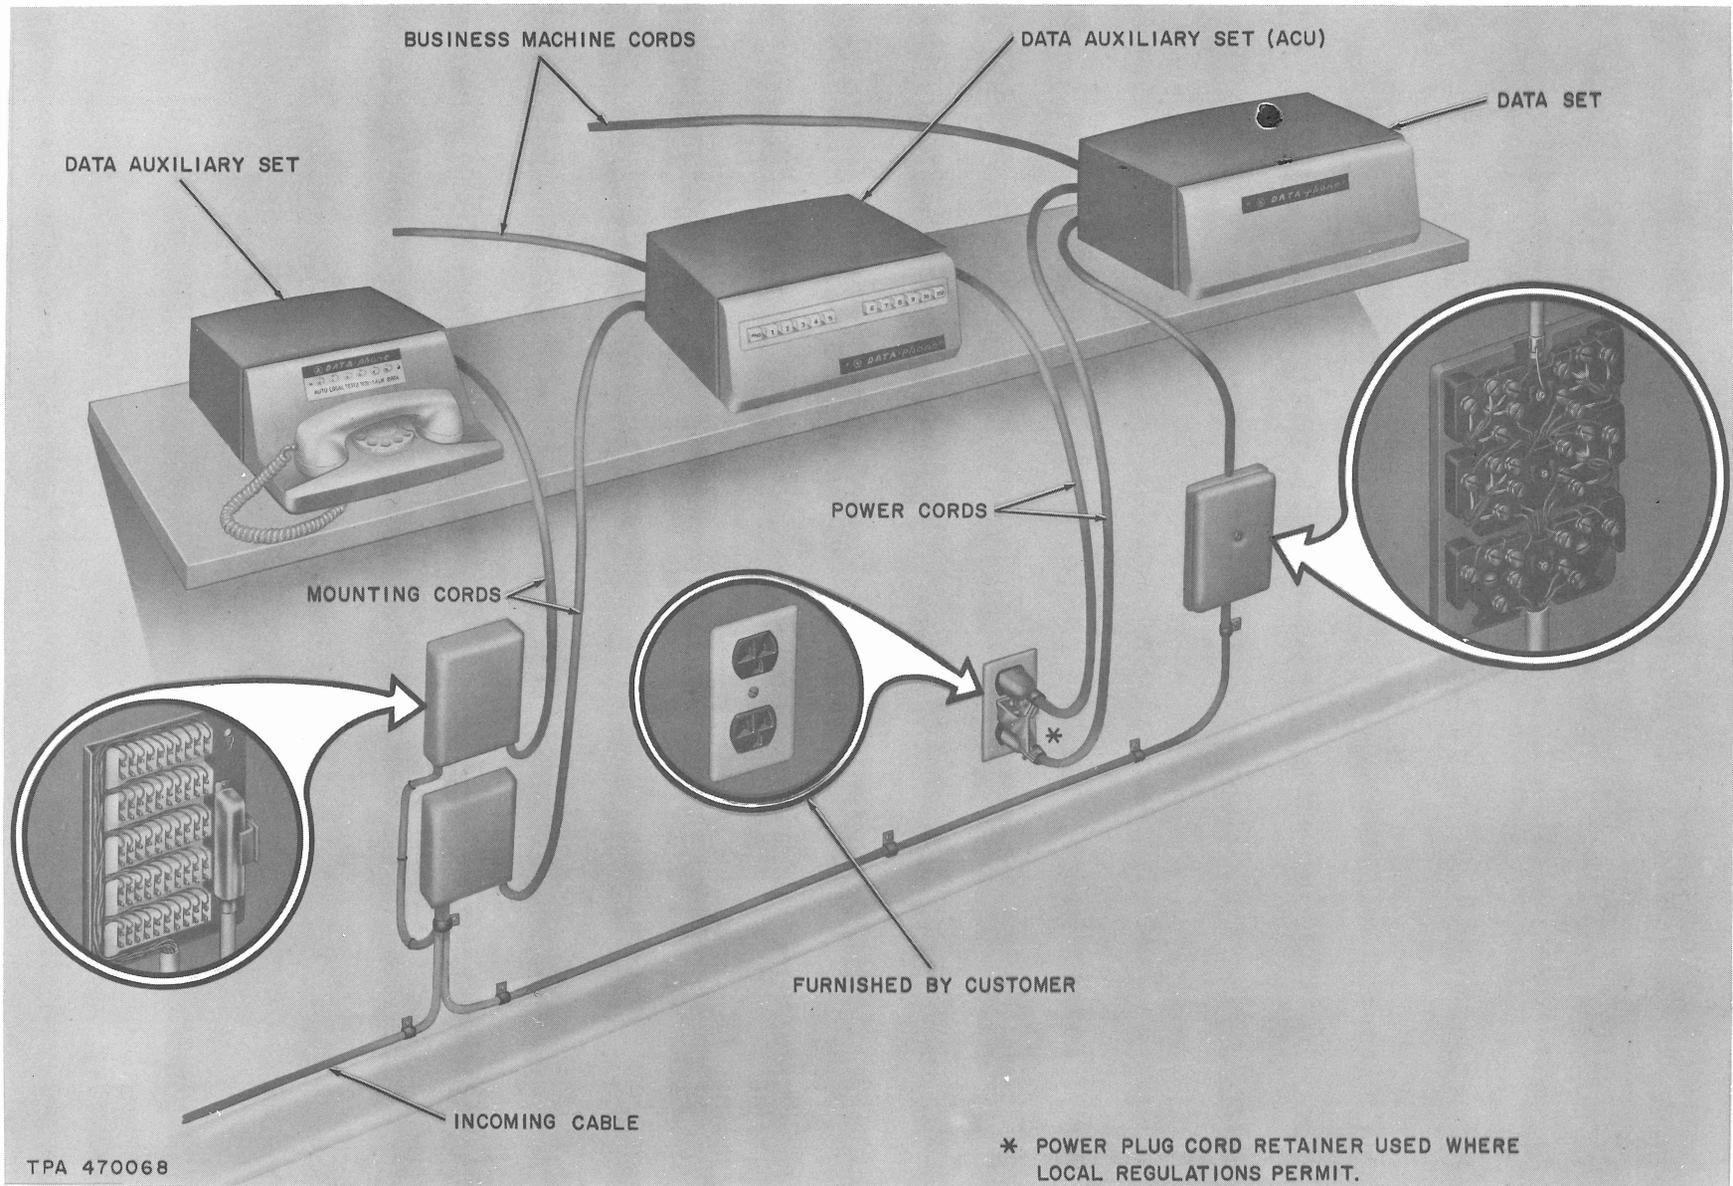

Fig. 4—Main Components of a Typical Installation Layout
3.06 A typical installation layout of major station components is shown in Fig. 4.